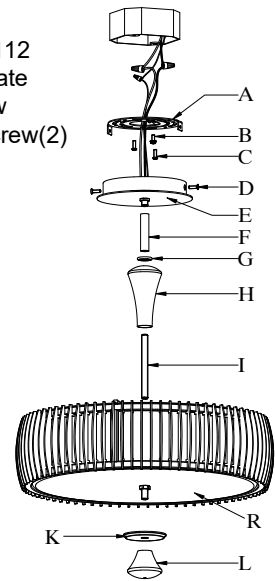

Fig.3
Replacing LED module (Fig. 1, Fig. 3)
The LED module can be replaced by a qualified electrician without cutting of wire and without damage to any decorative element to which the fixture is attached. See installation steps for more details (Fig.3.)
- b. Remove the screws (D) and remove wire connectors and place fixture body on a clean flat surface.
- c. Loosen finial (L), and remove cap (K). Loosen hex nut (S), and remove acrylic shade (R).
- d. Loosen screws (Q) rubber washers (N) and remove panel glass (U).
- e. To disconnect LED module: Loosen studs (O), screws (P) and rubber washers (N). Press button of quick connector (T) on LED module (M) with screw driver to disconnect wire and carefully remove LED module (M).
- f. Reverse steps a - e for installing new LED module (M) (Fig.3).